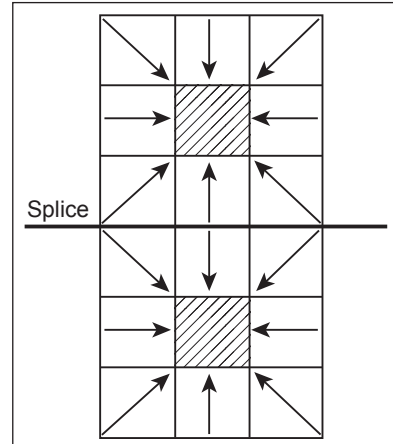

Figure 19: Removing a Module From Top Row of a Section
1. Using the procedure outlined in **Remove a Module (Rear Access) (p.12)**, remove the module in the center of the bay directly below or at an angle of the target module. Refer to **Figure 19**. All modules are accessed from the rear through the center module.